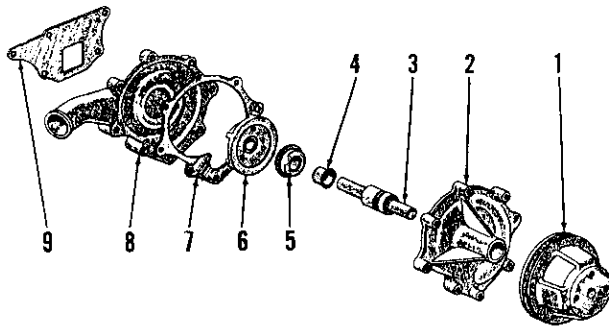
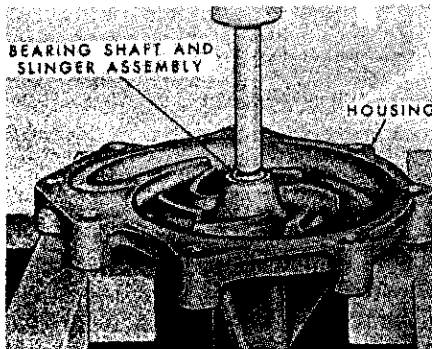

Fig. 155—Exploded view of water pump assembly used on all engines. Seal (5) seats against hub of impeller (6).
Fig. 156—View showing shaft and bearing assembly being pressed from impeller and housing.
170. Water pump can be removed after removing radiator as outlined in paragraph 169. Refer to exploded view of water pump in Fig. 155 and disassemble pump as follows:
Remove fan from pulley and using standard two-bolt puller, remove pulley from shaft. Remove rear cover (8) and press shaft and bearing assembly (3) out towards front of housing as shown in Fig. 156. Drive the seal (5—Fig. 155) out towards rear of housing.